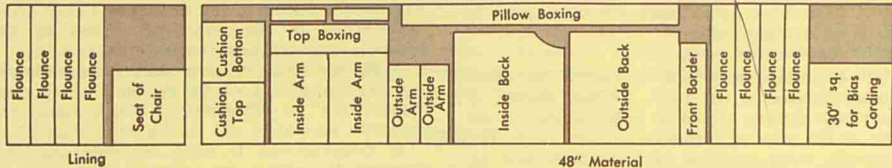

Figure 4
With the figures recorded (allowing for seams, hems and tuck-ins), decide on the pieces which will fit on the width of fabric you plan to use (figure 4).
**The Cutting Lay-Out.**—When all pieces of the pattern are cut, pin them to the fabric in the way which will produce the least waste. Check carefully before cutting to see that adequate seam allowances are made for each piece. Mark all allowances (seams and tuck-ins) with tailor's chalk (refer to figure 4).